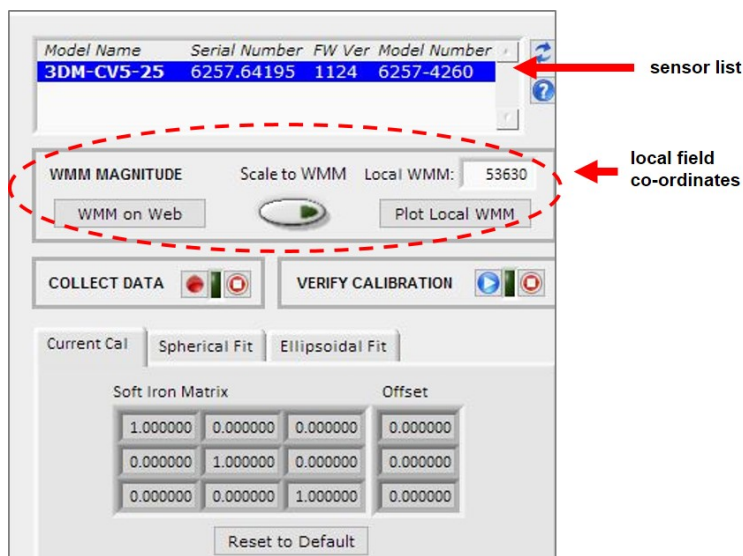

Figure 26 -Sensor Menu
- The sensor should automatically appear in the sensor list. If not, use the Refresh button to query it and then select the sensor (*Figure 26 - Sensor Menu* ).